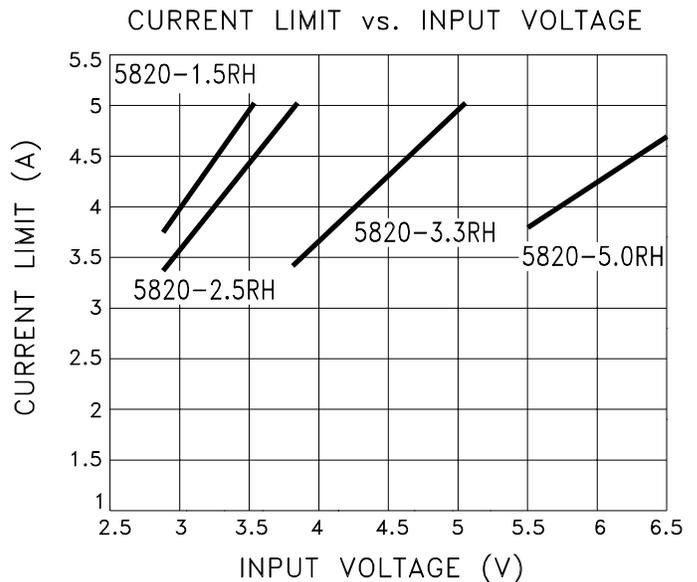

FIGURE 1
- ⑦ Output current limit is dependent upon the values of VIN and VOUT. See Figure 1 and typical performance curves.
- ⑧ Continuous operation at or above absolute maximum ratings may adversely effect the device performance and/or life cycle.
- ⑨ VIN shall be as specified or VIN min., whichever is greater.
- ⑩ Not applicable to versions where VIN = VIN Min.
- ⑪ Pre and post irradiation limits at 25°C, up to 300Krad TID, are identical unless otherwise specified.
- ⑫ Reference DSCC SMD 5962F09216 for electrical specification for devices purchased as such.
The MSK 5820RH current limit function is directly affected by the input and output voltages. Figure 1 illustrates the relationship between VIN and ICL for various output voltages. It is very important for the user to consult the SOA curve when using input voltages which result in current limit conditions beyond 4.5 Amps. When using input voltages which result in current limit above 4.5 Amps, the user must maintain output current within the SOA curve to avoid damage to the device. Note that 5 Amp maximum is due to current carrying capability of the internal wirebonds.